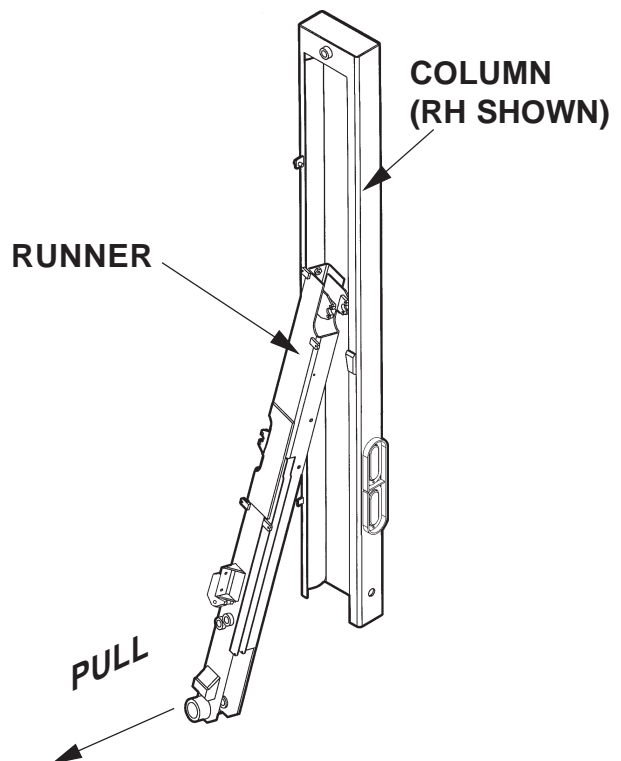

FIG. 10B
11. To remove Runner from Column, grasp lower end of Runner and pull towards the middle of vehicle (**FIG. 10B**).